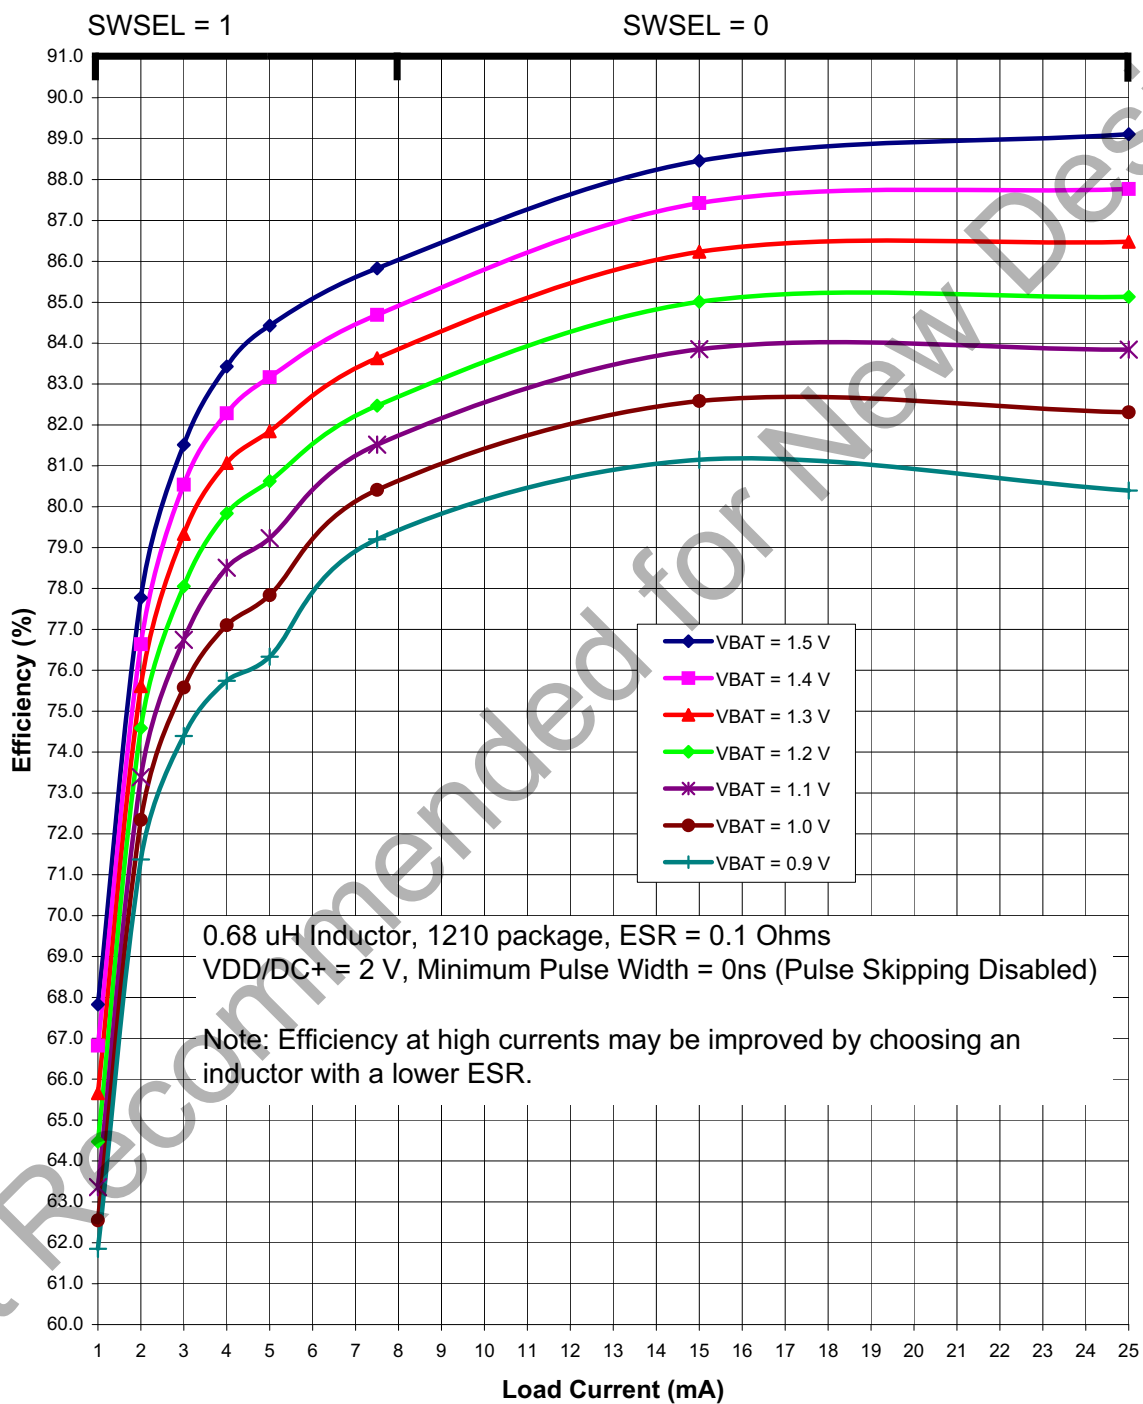
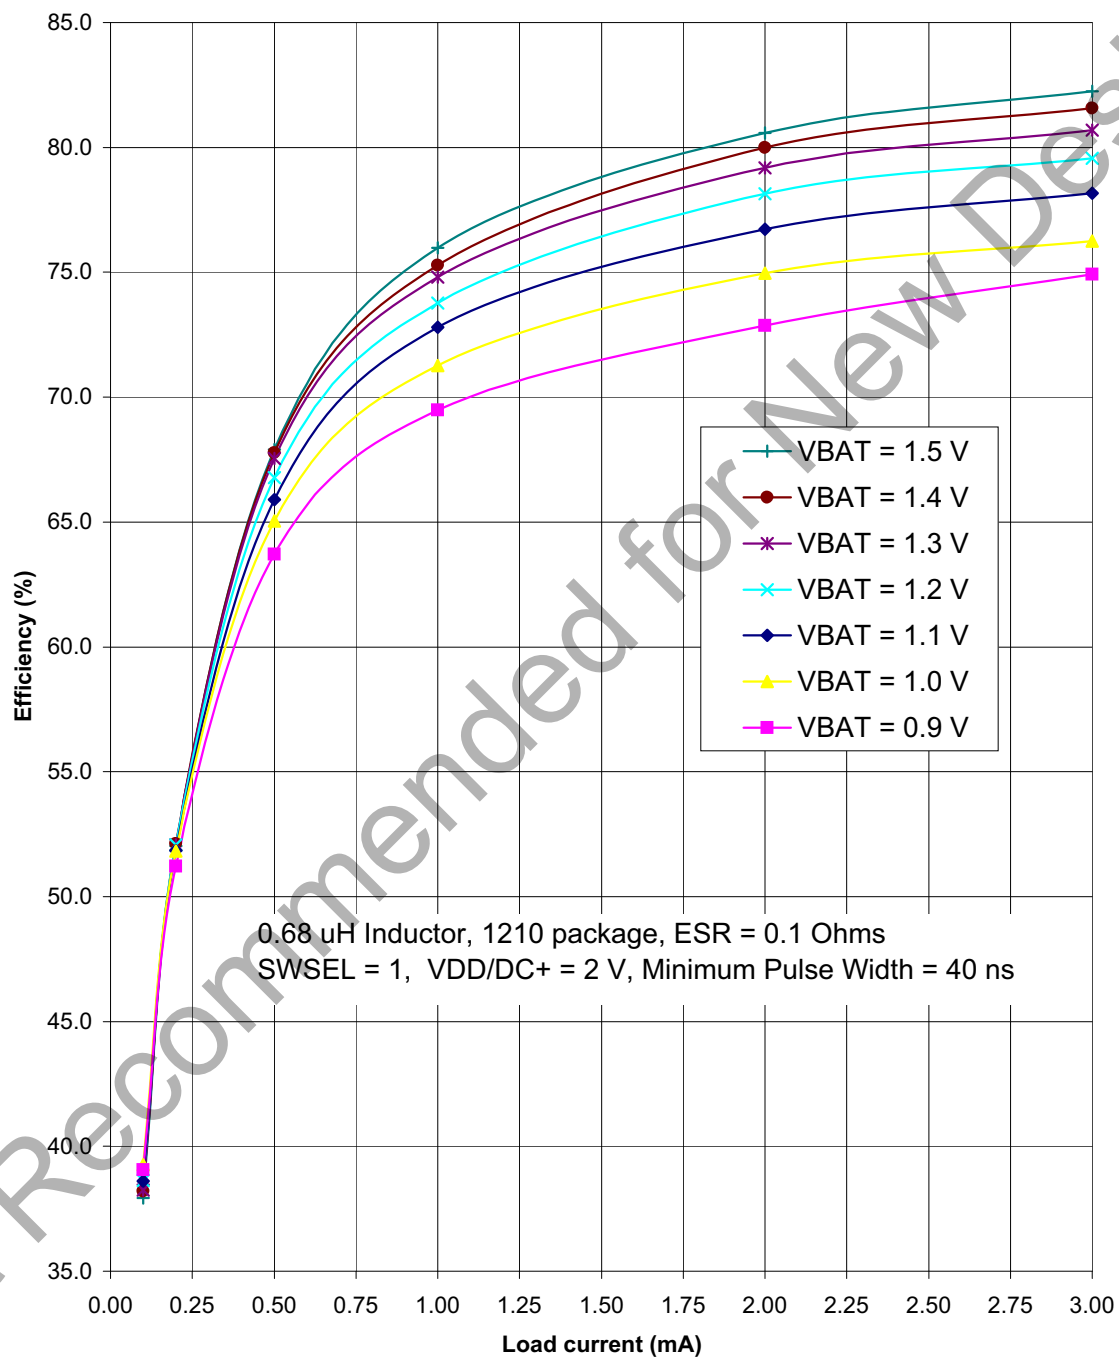

Figure 4.3. Typical DC-DC Converter Efficiency (High Current, VDD/DC+ = 2 V)
Figure 4.5. Typical DC-DC Converter Efficiency (Low Current, VDD/DC+ = 2 V)
<ol style="list-style-type: none"> Based on device characterization data; Not production tested. SYSCLK must be at least 32 kHz to enable debugging. Digital Supply Current depends upon the particular code being executed. The values in this table are obtained with the CPU executing a "sjmp \$" loop, which is the compiled form of a while(1) loop in C. One iteration requires 3 CPU clock cycles, and the flash memory is read on each cycle. The supply current will vary slightly based on the physical location of the sjmp instruction and the number of flash address lines that toggle as a result. In the worst case, current can increase by up to 30% if the sjmp loop straddles a 128-byte flash address boundary (e.g., 0x007F to 0x0080). Real-world code with larger loops and longer linear sequences will have few transitions across the 128-byte address boundaries. Includes oscillator and regulator supply current. IDD can be estimated for frequencies ≤ 10 MHz by simply multiplying the frequency of interest by the frequency sensitivity number for that range, then adding an offset of 90 μA. When using these numbers to estimate I_{DD} for >10 MHz, the estimate should be the current at 25 MHz minus the difference in current indicated by the frequency sensitivity number. For example: $V_{DD} = 3.0$ V; $F = 20$ MHz, $I_{DD} = 4.1$ mA – $(25 \text{ MHz} - 20 \text{ MHz}) \times 0.120 \text{ mA/MHz} = 3.5$ mA. The Supply Voltage is the voltage at the VDD_MCU pin, typically 1.8 to 3.6 V (default = 1.9 V). Idle IDD can be estimated by taking the current at 25 MHz minus the difference in current indicated by the frequency sensitivity number. For example: $V_{DD} = 3.0$ V; $F = 5$ MHz, Idle $I_{DD} = 2.5$ mA – $(25 \text{ MHz} - 5 \text{ MHz}) \times 0.095 \text{ mA/MHz} = 0.6$ mA. The supply current specifications in Table 4.2 are for two cell mode. The VBAT current in one-cell mode can be estimated using the following equation: $\text{VBAT Current (one-cell mode)} = \frac{\text{Supply Voltage} \times \text{Supply Current (two-cell mode)}}{\text{DC-DC Converter Efficiency} \times \text{VBAT Voltage}}$ <p>The VBAT Voltage is the voltage at the VBAT pin, typically 0.9 to 1.8 V. The Supply Current (two-cell mode) is the data sheet specification for supply current. The Supply Voltage is the voltage at the VDD/DC+ pin, typically 1.8 to 3.3 V (default = 1.9 V). The DC-DC Converter Efficiency can be estimated using Figure 4.3–Figure 4.5.</p> The EZRadioPRO peripheral is placed in Shutdown mode.